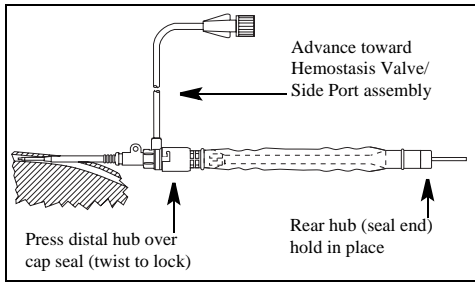

Fig. 9
22. Hold rear hub (seal end) of catheter contamination shield in place. Disengage distal hub from inner feed tube by pulling forward. Advance distal hub forward toward hemostasis valve/side port assembly. Hold assembly in place (refer to Fig. 9).